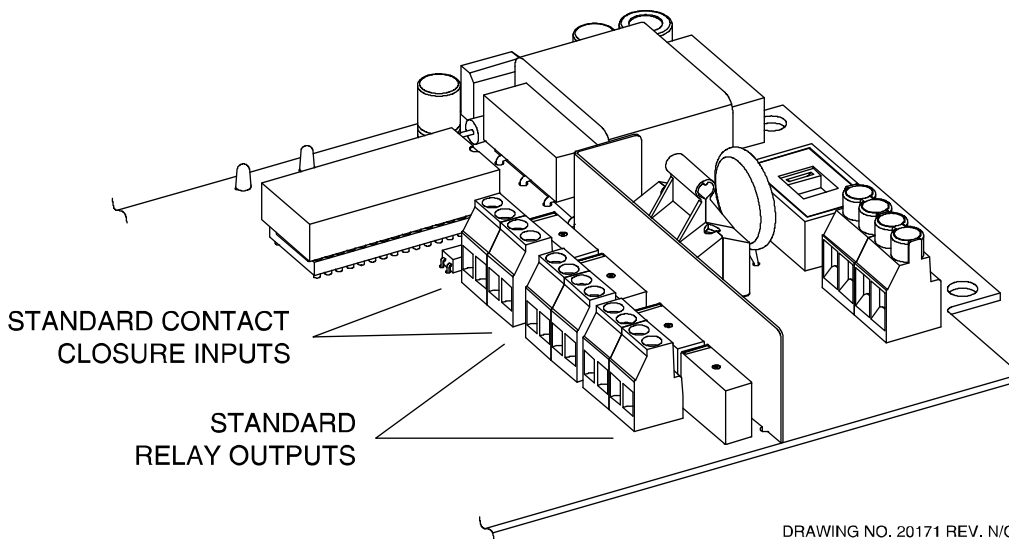

Figure 3-4 - Relay Output/Contact Closure Input Layout
The standard TMS1000D includes two (2) dry contact closure inputs and four (4) relay contact closure outputs as illustrated in Figure 3-4 below.